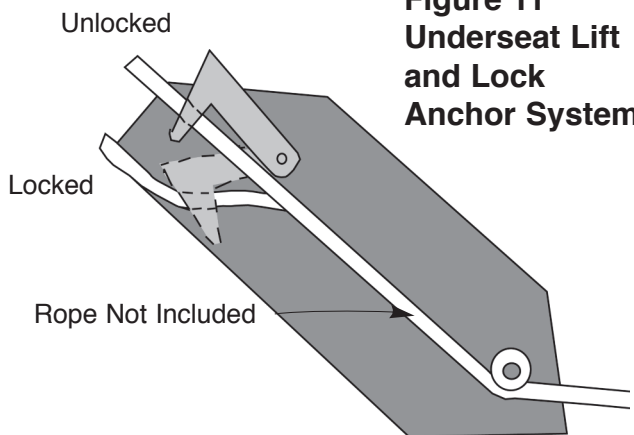

**Figure 10 Anchor Line Storage Bag Attachment**
1. Anchor Line Storage bag attaches to front of Seat Support Frame Member (see figure 10).